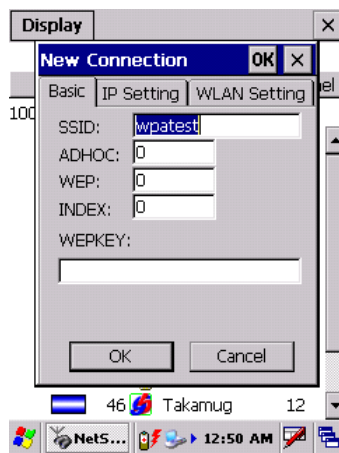
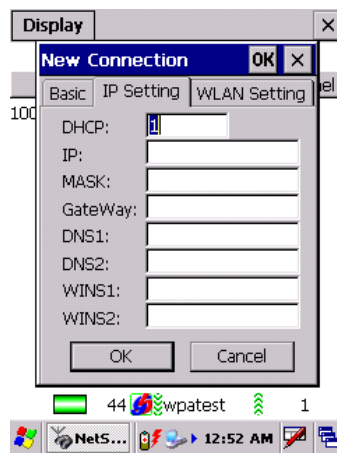
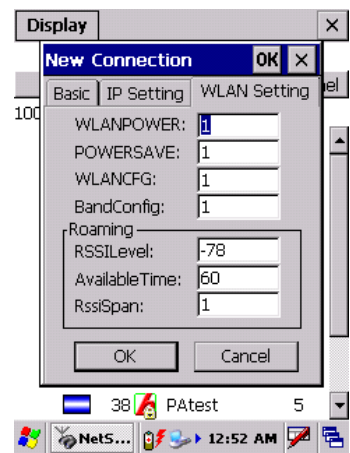

Figure 5.30
Figure 5.31
Figure 5.32
2. Navigate to **Display** → **New Connection** menu and set up the parameters shown in **Basic** (see Figure 5.30), **IP Setting** (see Figure 5.31), and **WLAN Setting** (see Figure 5.32) tabs.
3. Enter the SSID (see Figure 5.30) and other necessary security parameters for the network. Tap **OK** button and then close the configuration window.